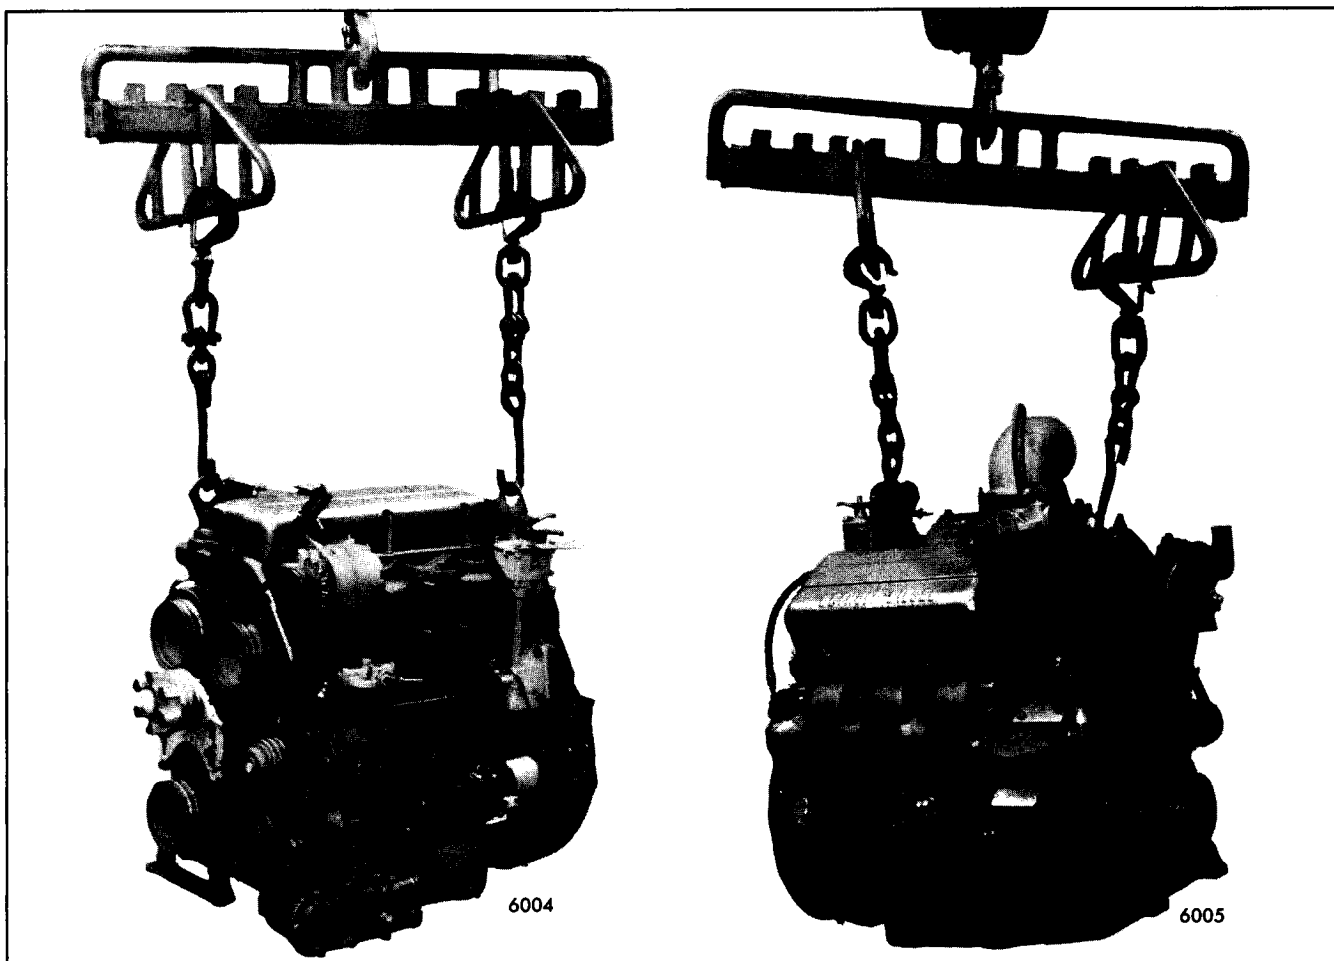

Fig. 9 - Lifting Engine with Spreader and Sling
17. Use a spreader bar with a suitable sling and adequate chain hoist to lift the engine from its base (Fig. 9). To prevent bending of the engine lifter brackets the lifting device should be adjusted so the lifting hooks are vertical. To ensure proper weight distribution all engine lifter brackets should be used to lift the engine.